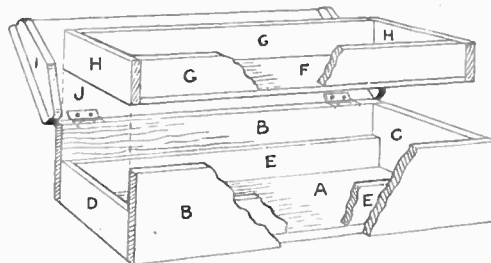

Fig. 2—Cut-away constructional detail
Allow the glue to harden, and then make the two runners (E). These are 7½ ins. long by ¼ in. wide, by ¼ in. thick. See that the long edges are flat and even after cutting them—our glasspaper board comes in well again for this job. Wipe one side and one edge of the two runners with glue and press them down inside the box as shown in Fig. 2. In this diagram, parts of the sides, etc. have been shown cut away to make construction clear.